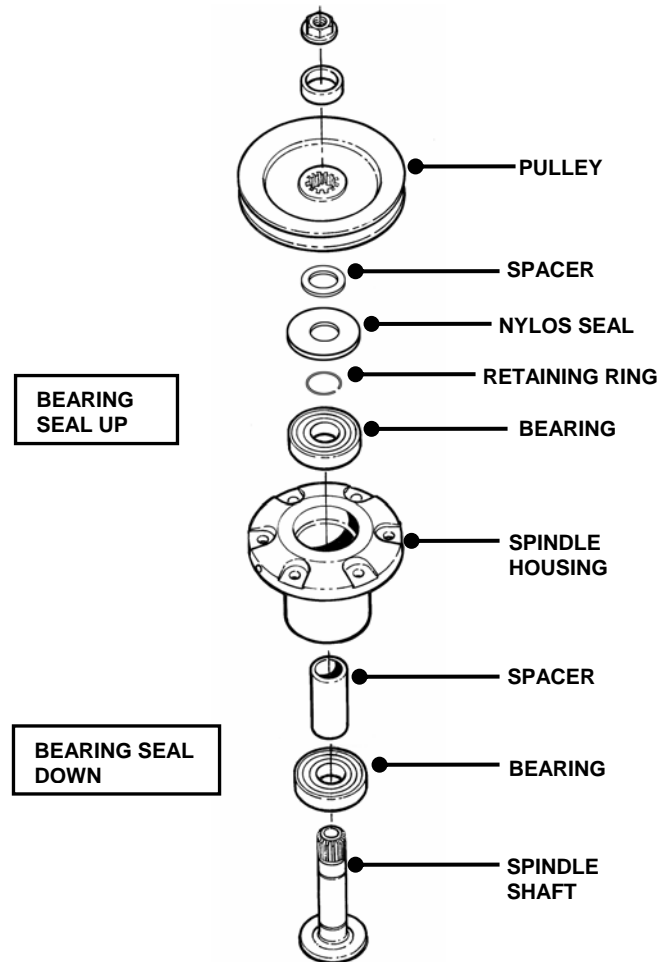

FIGURE 5.19
4. Top and bottom bearings are now removable. Pull out on inner race to slide bearing from housing. See Figure 5.19.